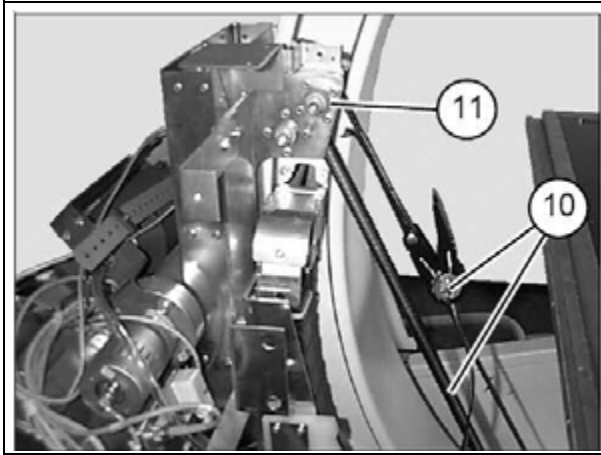
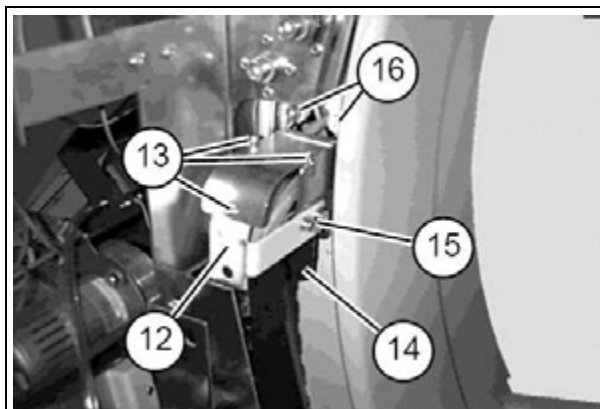

Fig. 35: Tensioning belt_A
Fig. 37: Cable guides
- Attach the tensioning belt ((10/Fig. 35 / p. 65) and (10/Fig. 37 / p. 65)) on one of the sides; route the tensioning belt over the **upper concealed roller** (11/Fig. 35 / p. 65).
- Lift up the C-arm using the tensioning belt until the cable guides ((12/Fig. 37 / p. 65)) are accessible.
- Loosen the three screws ((13/Fig. 37 / p. 65)) and remove the cover plate.
- Remove the rubber end stop ((14/Fig. 37 / p. 65)); the attachment screw (Allen 6 mm) is accessible from above, through the cable harness.
- Remove the two screws ((15/Fig. 37 / p. 65)).
- After removing the 4 attachment screws from above ((16/Fig. 37 / p. 65)) and below (in (Fig. 37 / p. 65) concealed), push the holder downward as far as possible.
- Lower the C-arm far enough and hold it with the tensioning belt until both cable guides and rubber end stops ((Fig. 37 / p. 65)) can be reassembled in reverse order.